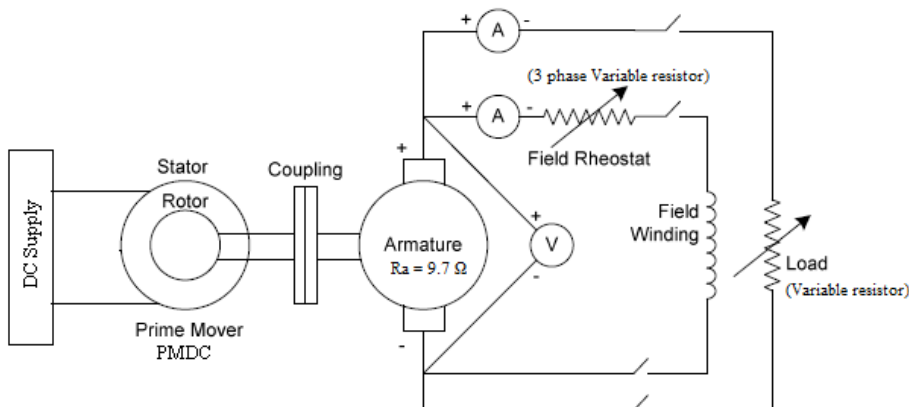

Figure 5.2. Circuit Diagram for Load Characteristics
The circuit diagram for Load Characteristics is shown in Figure 5.2
1. Make the connections as shown in Figure 5.2.